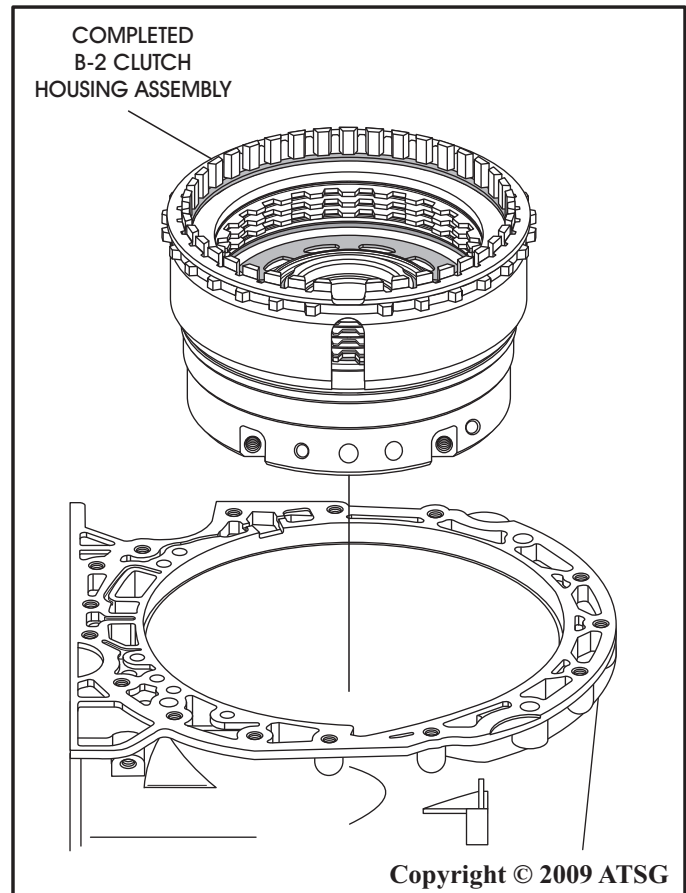

Figure 175
2. Install completed B-2 clutch housing assembly into the case, as shown in Figure 175.